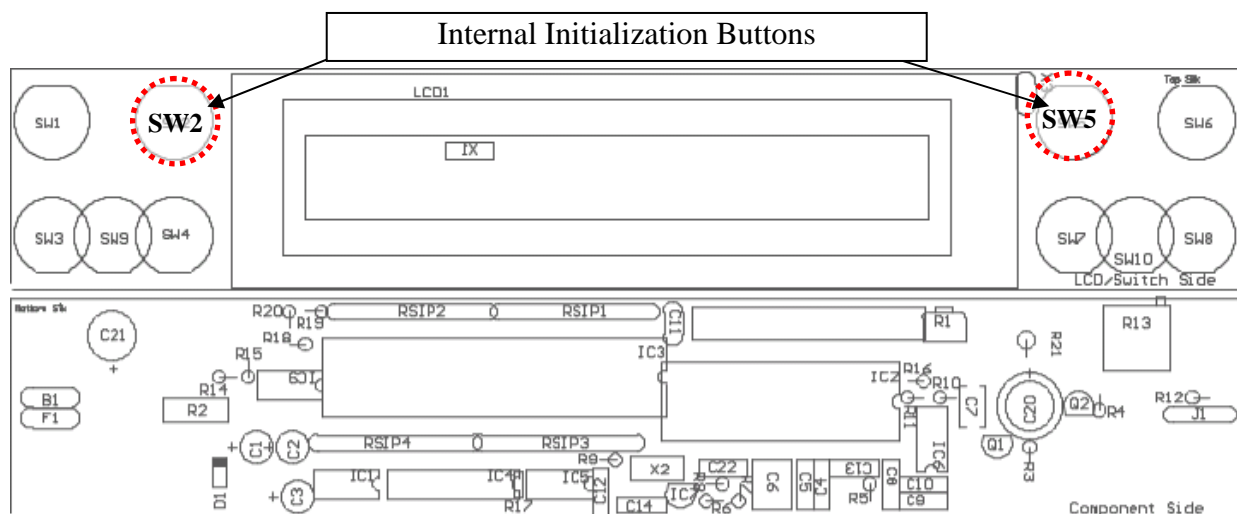

Figure 17: Location of Internal Initialization Buttons
STEP 1: Remove the four (4) screws on the back of the display housing. (Figure 17) The Initialization Buttons (SW2 and SW5) are located internally on the PC Board as indicated.